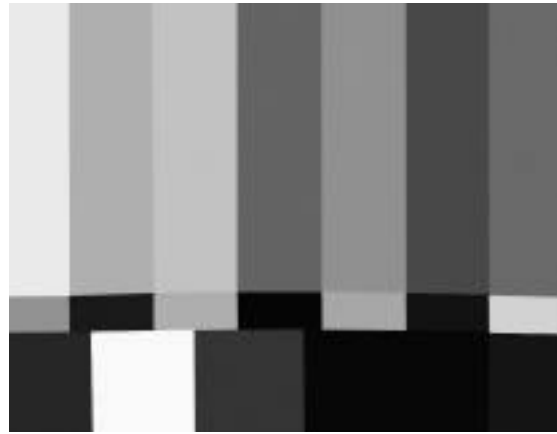

Figure 1-1. A television picture is created by an electrical video signal. In this case, the picture of color bars is created by a color bars test signal.
A television picture is conveyed by an electrical signal (Figure 1-1). This video signal is carried from one place to another by cables (coax) or by radio-frequency (RF) waves. Along the way, it must pass through various pieces of equipment such as video tape machines, switchers, character generators, special effects generators, and transmitters. Any of this equipment can change or distort the signal in undesirable ways.
Notice there are actually two “loop-through” CH A connectors on both the waveform monitor and vectorscope (Figure 1-1). If you feed the signal in one side of these inputs and out the other, the signal will pass through the instrument unaffected. This type of loop-through input lets you connect the same signal to more than one instrument.